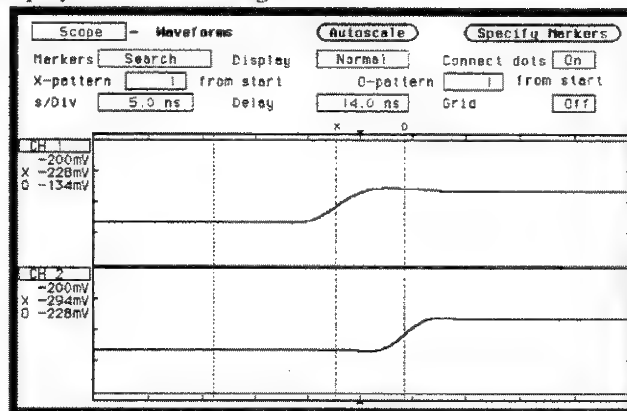

Figure 25-26. Waveform Display
8. Select the **Done** field to return to the waveform display. The display now looks like figure 25-26.